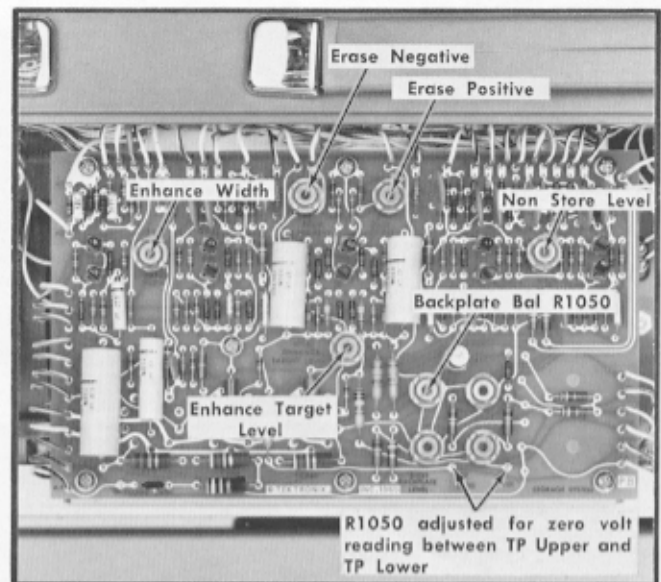

Fig. 6-45. Adjust Backplate Bal R1050 for voltmeter reading of 0 volts.
d. Connect the voltmeter between TP Upper and TP Lower and adjust Backplate Bal R1050 for a voltmeter reading of zero. Fig. 6-45.